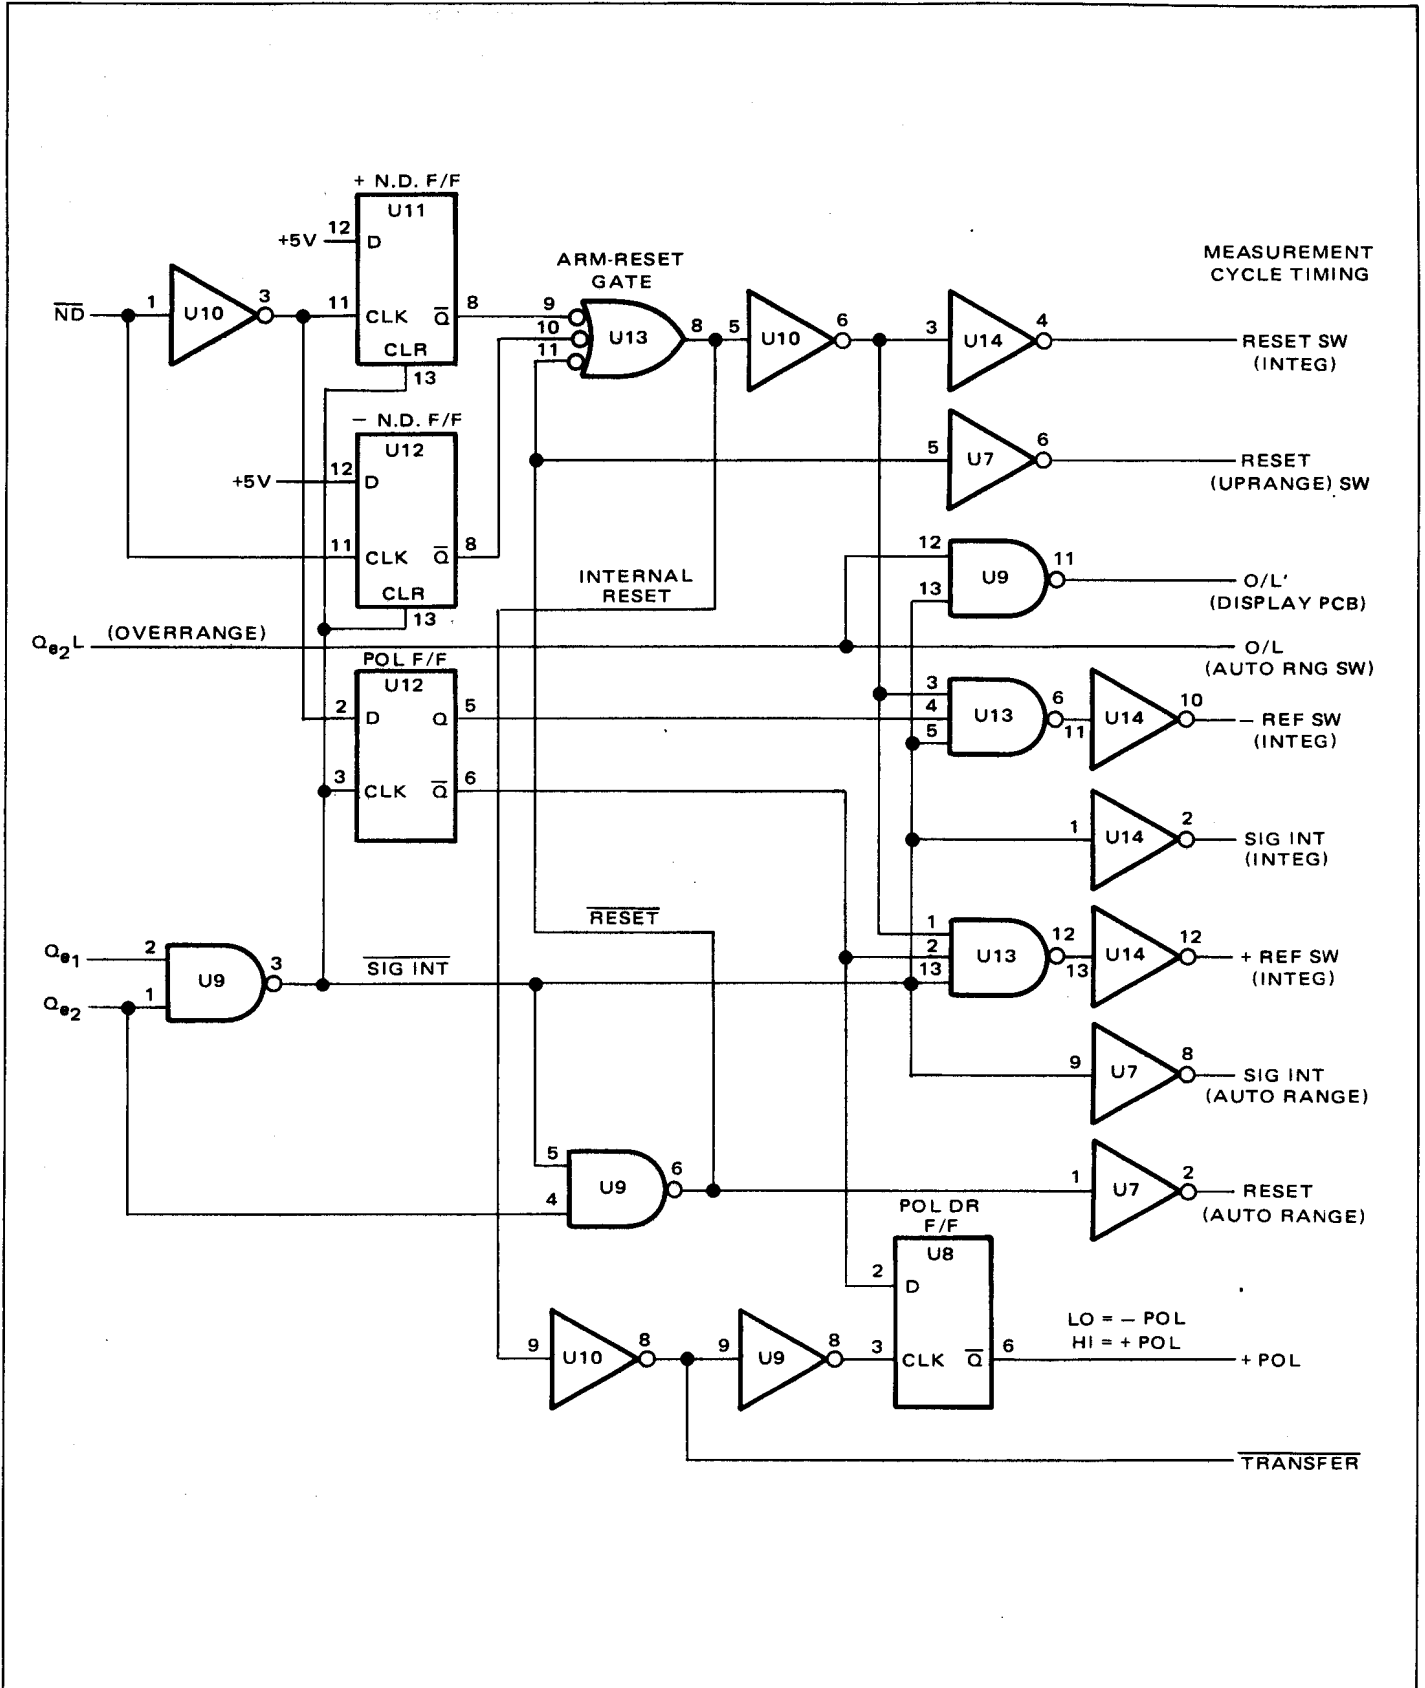

Figure 4.11 - Timing and Control Circuit, Simplified Block Diagram
4.22 *Timing and Control Circuit.* Operation of the 4600 is controlled by the Timing and Control circuits (figure 4.11, block diagram). These circuits provide synchronization and control signals which control the sequence of operation referred to as the measurement cycle. Figure 4.12 illustrates the measurement cycle timing. Note that the timing waveforms in the upper portion of the figure illustrate timing and polarities for a positive measurement signal while the lower portion illustrates the negative input example.
The differences between the upper and lower portions of the figure are the polarity of the input signal, the integrator slope and polarity, the timing of signal switch, reference switch and reset switch. The following description of the operation of the timing and control circuits refers to the simplified block diagram (figure 4.11) and the timing chart (figure 4.12).